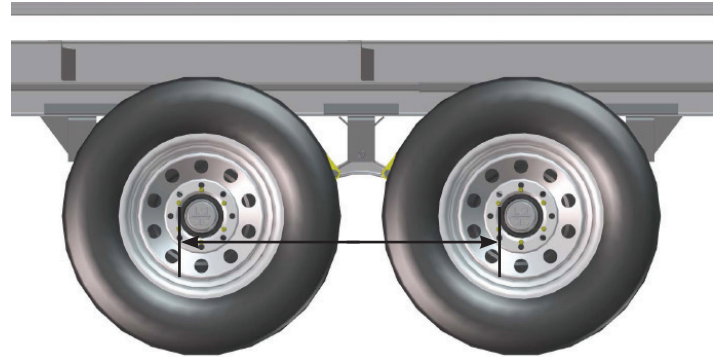

Fig.13
4. Take measurement from hub to hub. Measuring from the edge of one dust cap to the same edge of the other dust cap will result in the same center-to-center measurement (**Fig.13**).